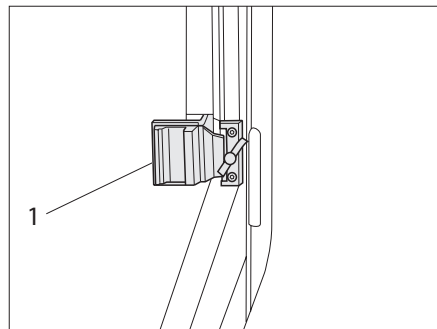

Fig. 34 Sliding window with slide lock
- ▶ Turn the locking knob (Fig. 34,1) into the vertical position.
- ▶ Press handle (Fig. 34,2) and push it forward or backward at the same time.